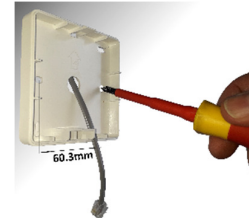

Fig 13
Step 2 Feed one end of the RJ control cable through the switch box, feed and secure the RJ control cable through the back case and secure back case to switch box using 2 x M3.5 screws (not supplied) (see Fig 13).